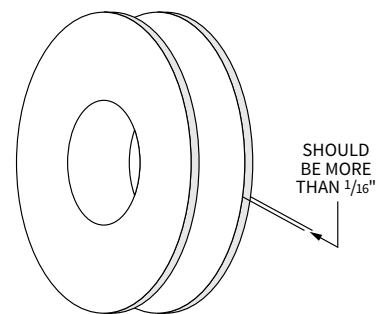

Figure 33: Roller Wheel Inspection
- CHECK THE CONDITION OF THE MAIN ROLLER WHEELS.** Replace if the flange is $\frac{1}{16}$ " thick or less, and if the roller has excessive foreign debris on the working surface (Figure 33).